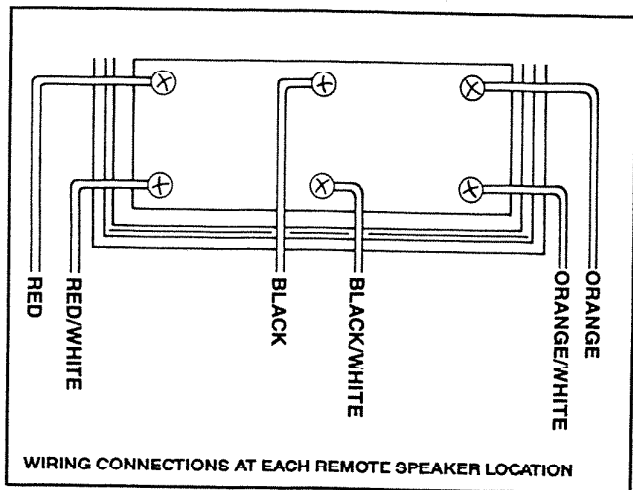

FIGURE 2
2. Refer to Figures 2 and 3. As illustrated, connect the IW-6 for each remote speaker station to the appropriate set of terminal screws at the master station's terminal board.